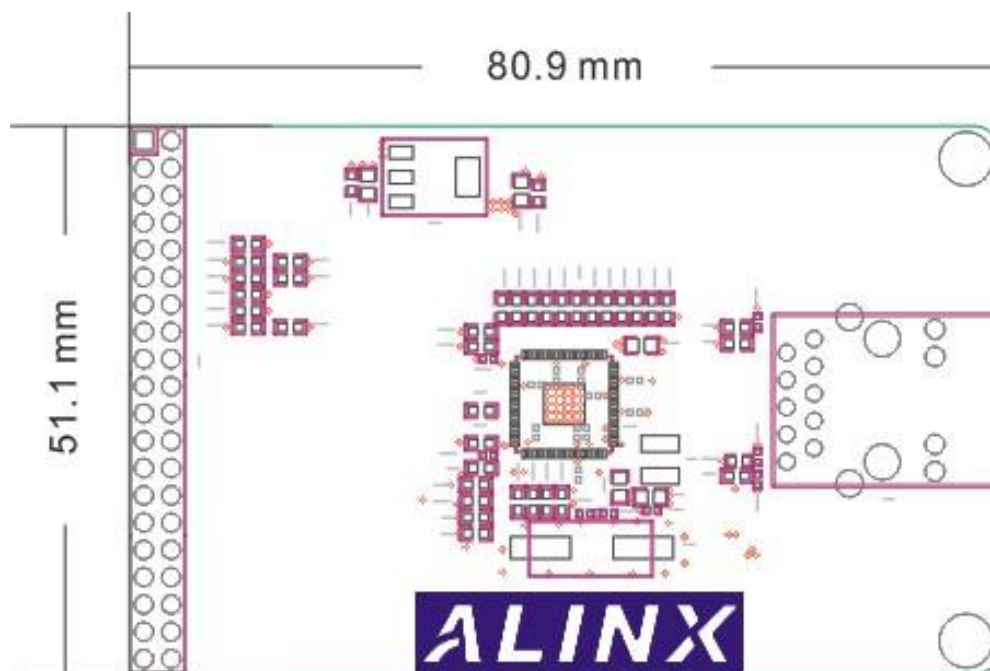

Figure 1-3: AN8211 Gigabit Ethernet Module Dimensions
- AN8211 Module Dimension: Detailed as Figure 1-3